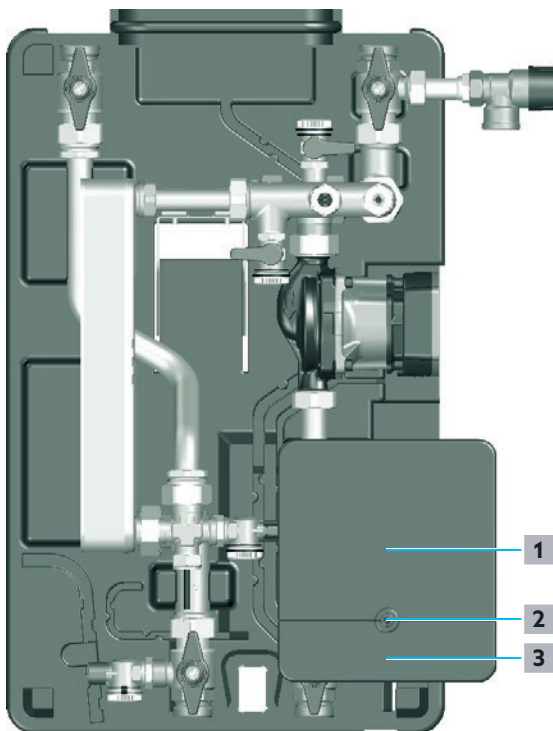

Fig. 31: Opening of the controller
- 4 Loosen the screw (position 2 in Fig. 31 on page 45) and put it aside.
- 5 Slide the connection panel cover (position 1 in Fig. 31 on page 45) upwards beyond the catches.